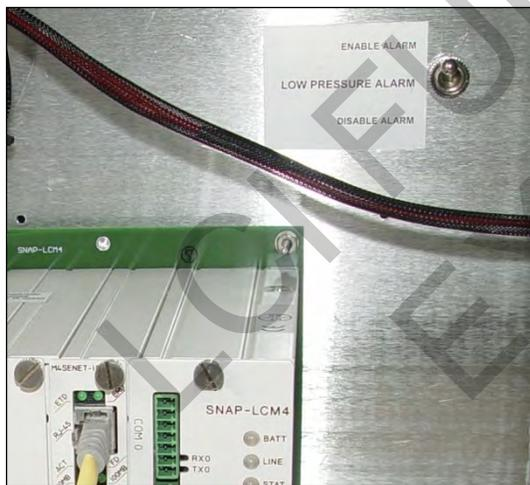

Figure 3-22 Enable Low Pressure Alarm switch
3. Set inlet air pressure to desired set point pressure. Read pressure on gage in Figure 3-22 Enable Low Pressure Alarm switch .